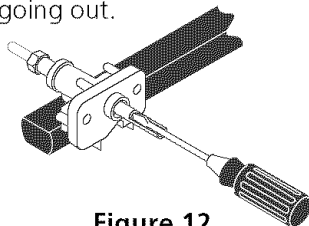

Figure 12
4. Adjust the "LOW" Setting of Surface Burner Valves (see Figure 12)
4. Level range if necessary, by adjusting 4 leg levelers with wrench. (See Figure 12 below.) A minimum clearance of 1/8" (0.8 cm) is required between the bottom of the range and the rear leg levelers to allow room for the anti-tip brackets.